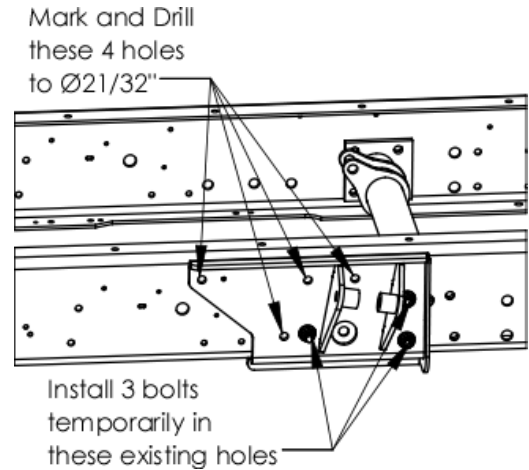

Figure 7. Location Upper Strut Mount on Driver Side of Frame – DS150
7. **For DS120F53 and DS150F53:** Locate the two upper strut mounts and place along the frame as shown in Figure 7 and Appendix C: Frame Drilling Locations, Figure A 1 and Figure A 2.